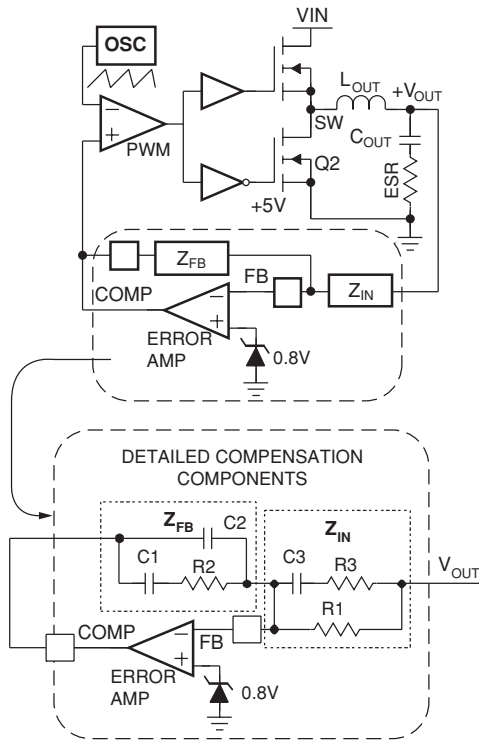

Figure 7. Voltage Mode Buck Converter Compensation Design
Figure 7 highlights the voltage-mode control loop for a synchronous-rectified buck converter. The output voltage (V_{OUT}) is regulated to the reference voltage level. The error amplifier (Error Amp) output ($V_{E/A}$) is compared with the oscillator (OSC) triangular wave to provide a pulse-width modulated (PWM) wave with an amplitude of V_{IN} at the SW node. The PWM wave is smoothed by the output LC filter (L_{OUT} and C_{OUT}).
1. The compensation network consists of the error amplifier (internal to the FAN6520A) and the impedance networks Z_{IN} and Z_{FB} . The goal of the compensation network is to provide a closed loop transfer function with the highest 0dB crossing frequency (F_{0dB}) and adequate phase margin. Phase margin is the difference between the closed loop phase at F_{0dB} and 180 degrees. The equations below relate the compensation network's poles, zeros and gain to the components ($R1$, $R2$, $R3$, $C1$, $C2$, and $C3$) in Figure 7.